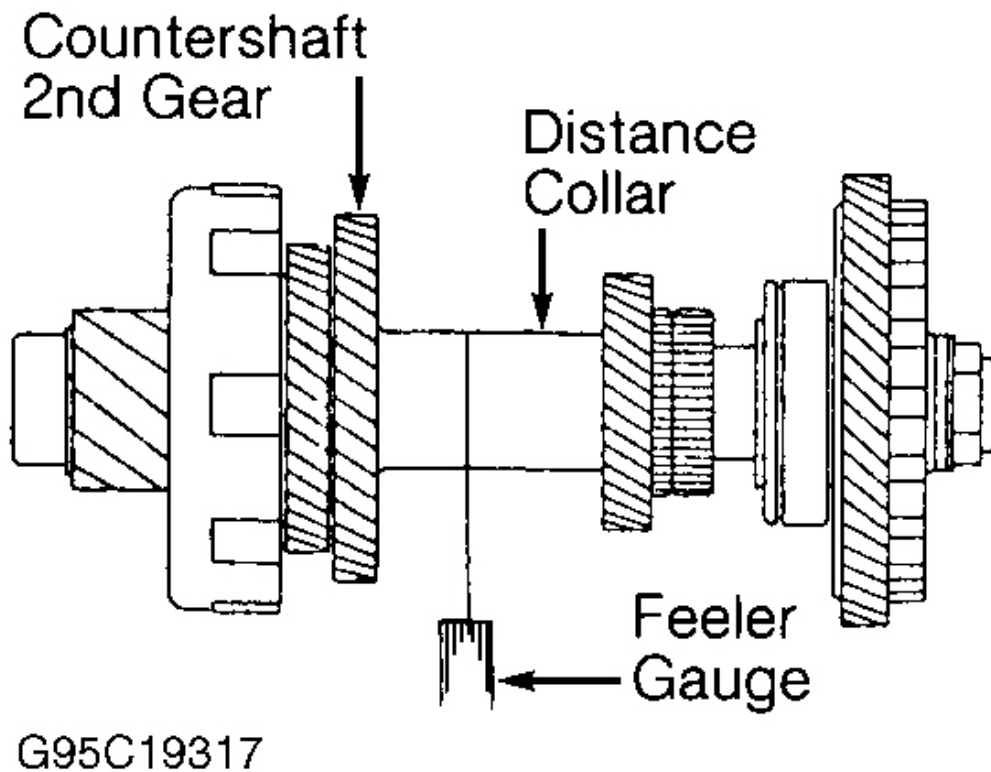

Fig. 20: Checking Countershaft 2nd Gear Clearance
6. Using feeler gauge, measure countershaft 2nd gear clearance between distance collar and countershaft 2nd gear. See **Fig. 20** . Measure clearance in 3 areas and average measurements. Countershaft 2nd gear clearance should be .004-.007" (.10-.18 mm).